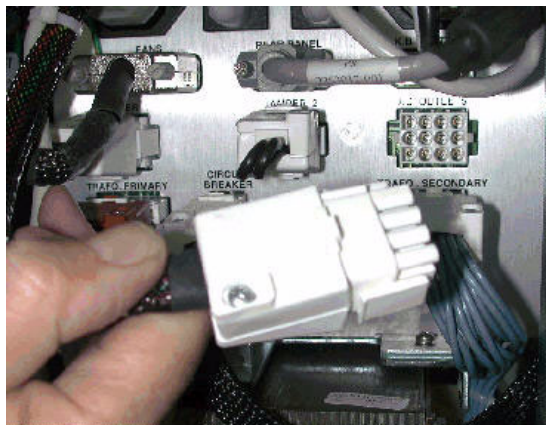

Figure 8-10 AC Distribution Box Cables
- 9) Plug in the AC cable (P/N 2253013) to the AC Dis. Box, shown in Figure 8-10 on page 8-10, and secure the cable to the other cables with a tie-wrap.